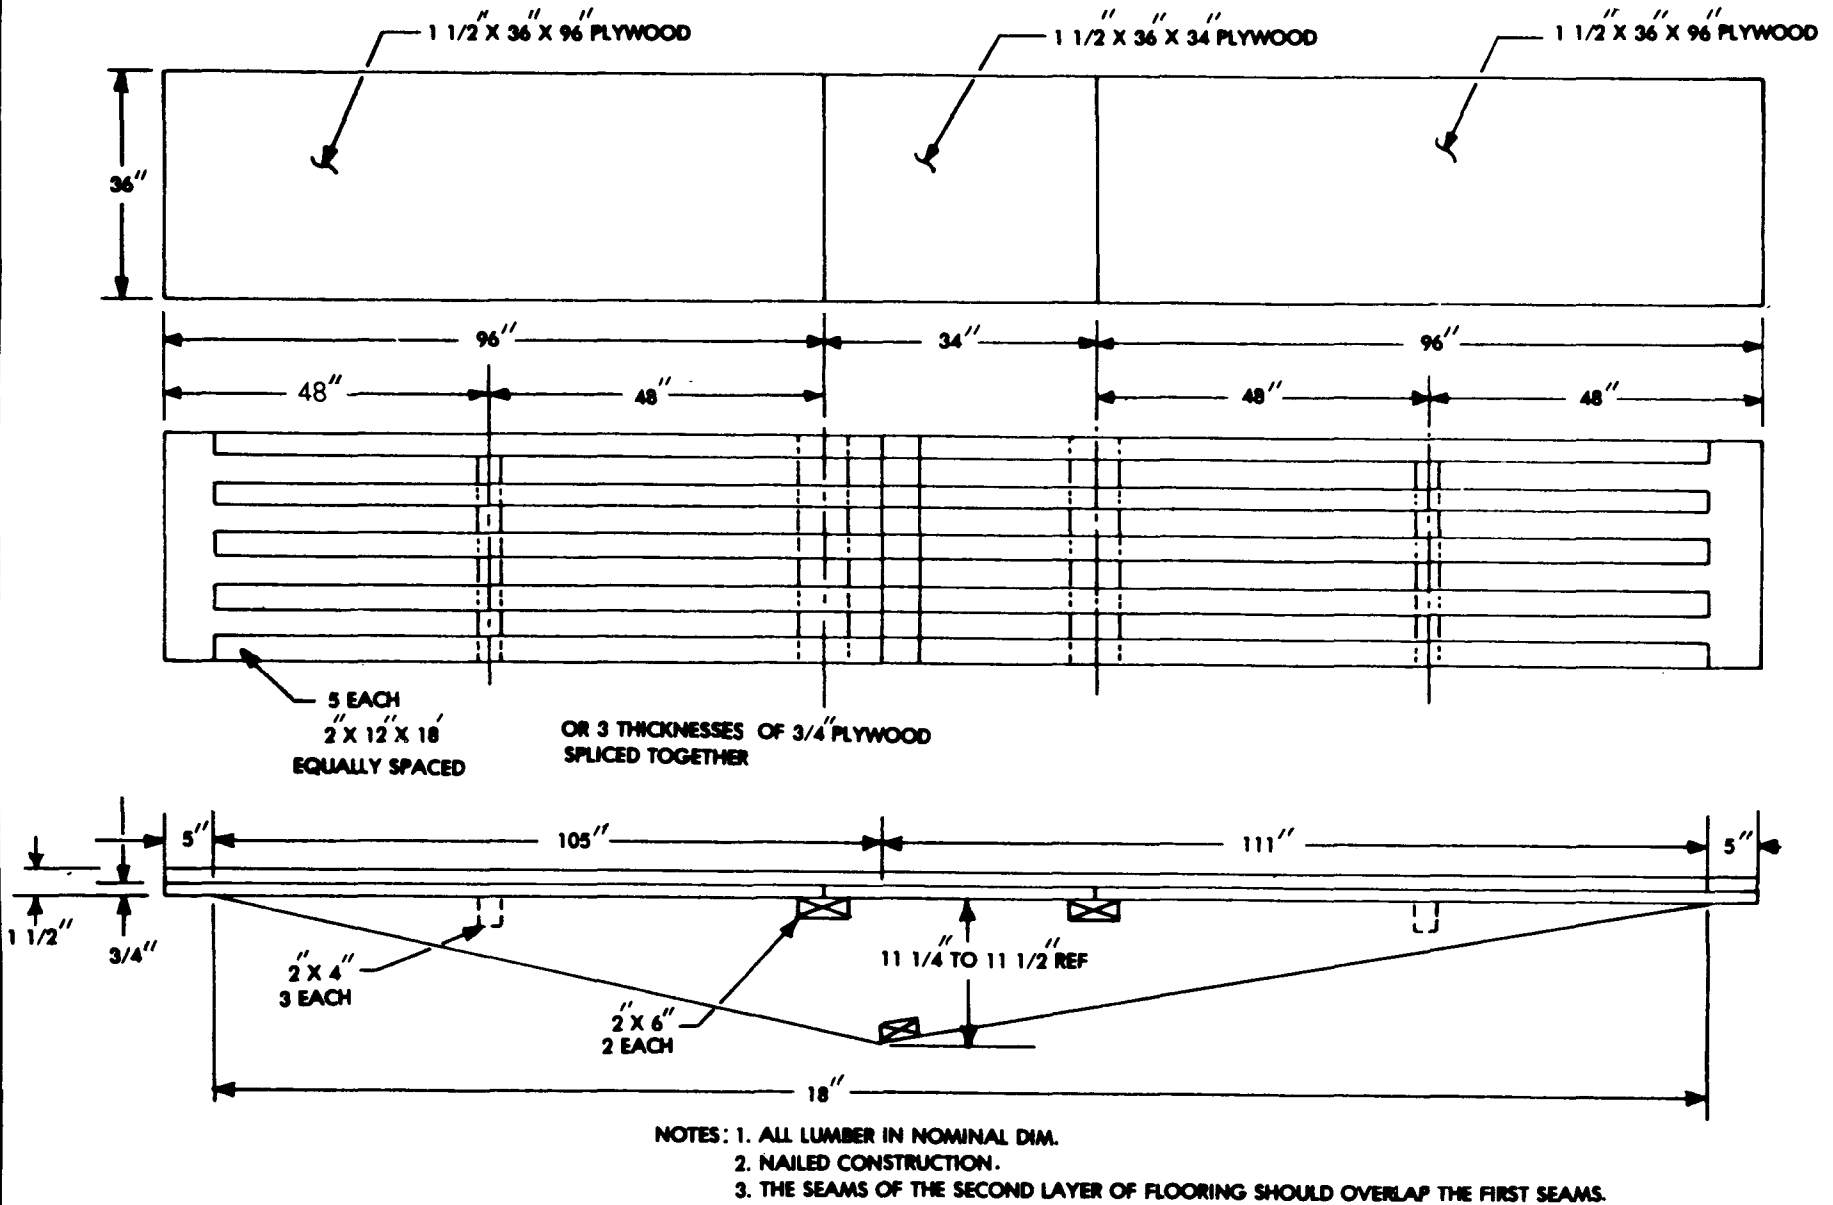

Figure 2-7. C-5 Ramp Extension
(4) Fabricate and install two ramp extensions in accordance with figure 2-7.
(5) Rig and operate loading devices not belonging to cargo aircraft.
(6) Be prepared to demonstrate that disassembled components are packaged correctly and secured in accordance with Air Force restraint requirements: 3 G's forward, 1 ½ G's aft and lateral, 2 G's vertical.
(7) Prepare manifest itemizing disassembled components stowed within helicopter as part of fuselage package.
(8) Furnish cargo aircraft commander DD Form 1387-2, listing all dangerous materials (defined by TM 38-250/AFM 71-4) to be shipped with or within helicopter.